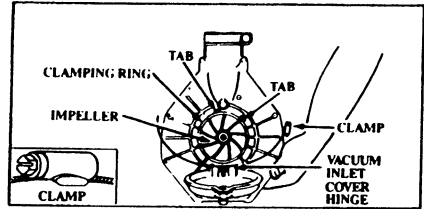

Figure 7
4. Hold open the Vacuum Inlet Cover and slide one end of the open Clamp into the slot above the Vacuum Inlet Cover Hinge and around the opening as shown in Figure 7. Position the Screw portion of the Clamp between the two Tabs. Figure 7.
5. Reinstall the loose end of the Clamp and turn the Clamp Screw (See Inset, Figure 7) with a screwdriver to loosely secure the Clamp onto the unit.